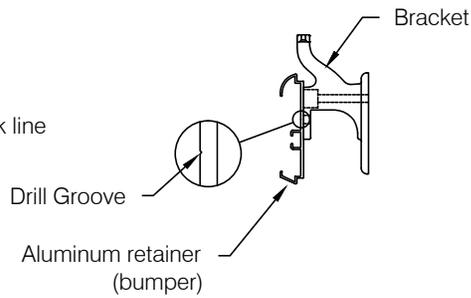

fig 2
- Step 3:** Layout aluminum retainer "face up", mark and drill bracket mounting holes. Use groove in retainer to locate centerline of drilling, see **fig 2 and fig 3**.